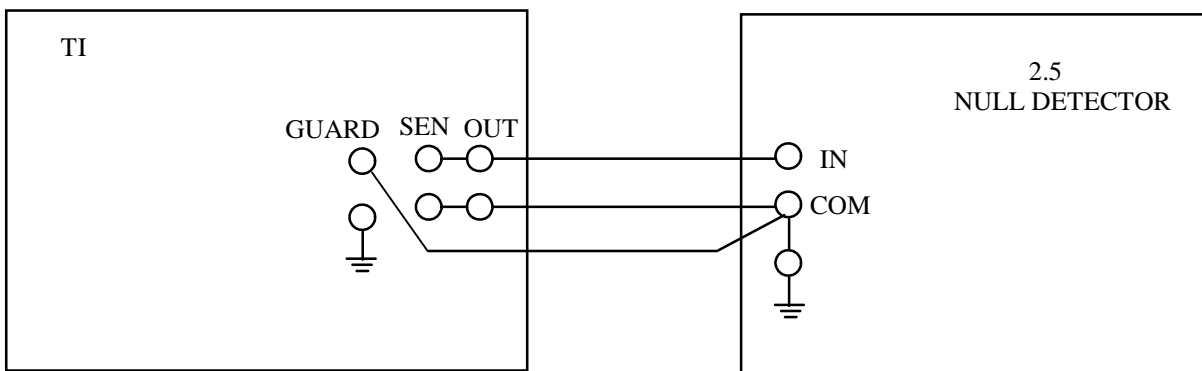

Figure 3. Zero Output Adjust Configuration
4.2.2 Set the TI output-voltage dials to indicate all zeroes, connect the equipment as shown in Figure 3; and set the TI power switch to OPR.